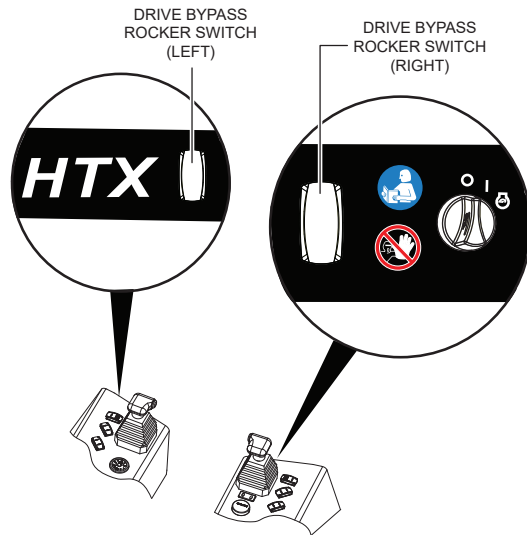

Figure 59. Drive Bypass Rocker Switches
5. To finish installing the float pan onto the remaining finisher blades, turn the rotors by pressing and holding the left or right drive bypass switch (Figure 59) and the foot pedal.